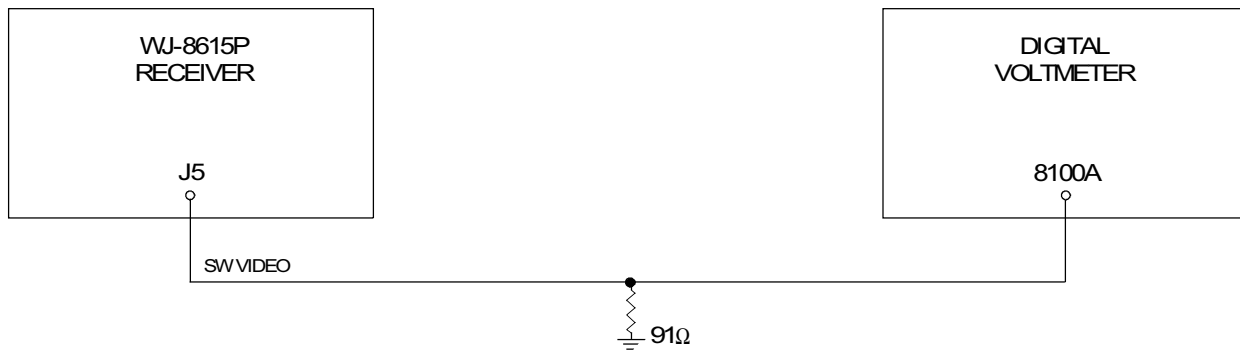

Figure 4-8. Video Alignment, Equipment Connections
8. Connect the test equipment as illustrated in **Figure 4-8** and again set the receiver to the parameters listed in **Table 4-6**.